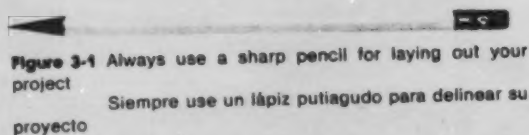

Figure 3-1 Always use a sharp pencil for laying out your project
- A sharp **pencil** (Figure 3-1).